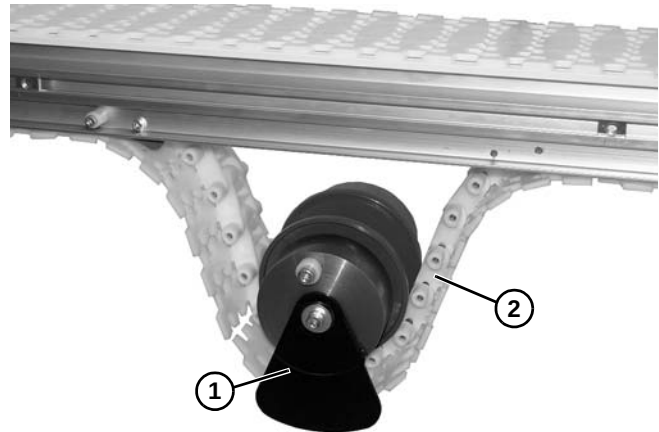

Figure 96
5. Remove idler pulley assembly (**Figure 96, item 1**) from belt (**Figure 96, item 2**).